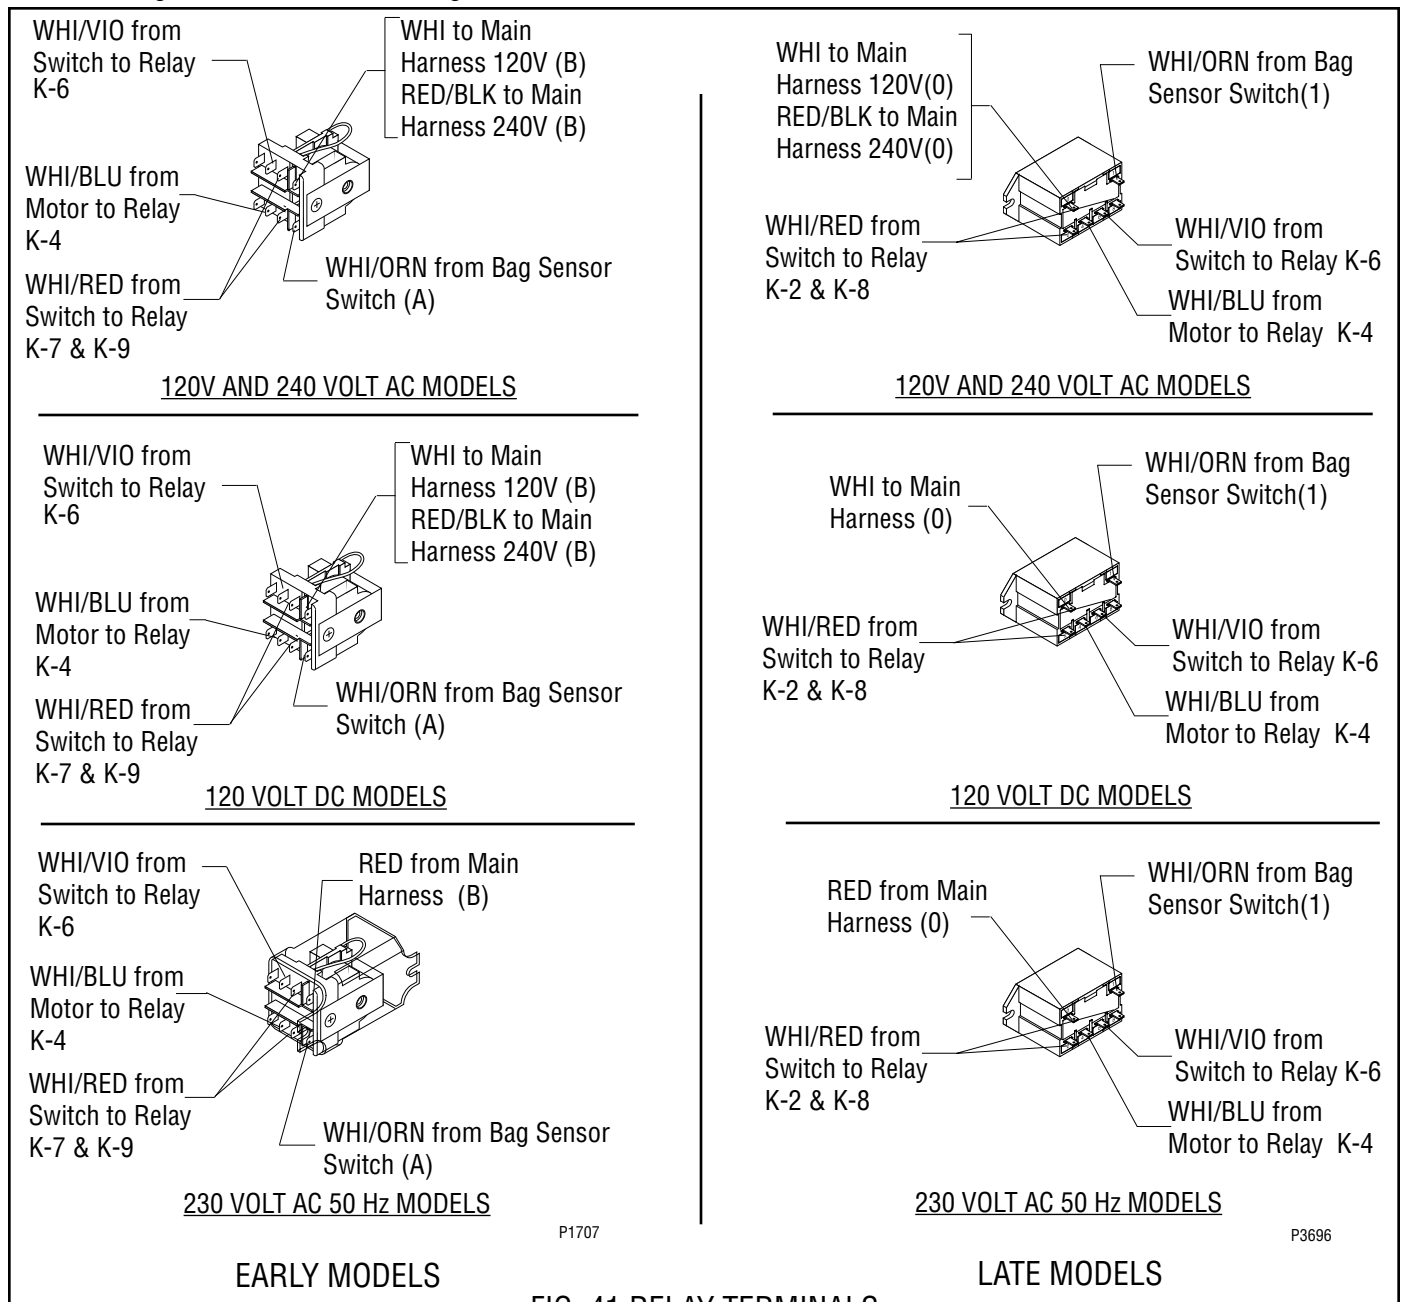

FIG. 41 RELAY TERMINALS
6. Refer Fig. 41 when reconnecting the wires.
5. Refer Fig. 41 when reconnecting the wires.